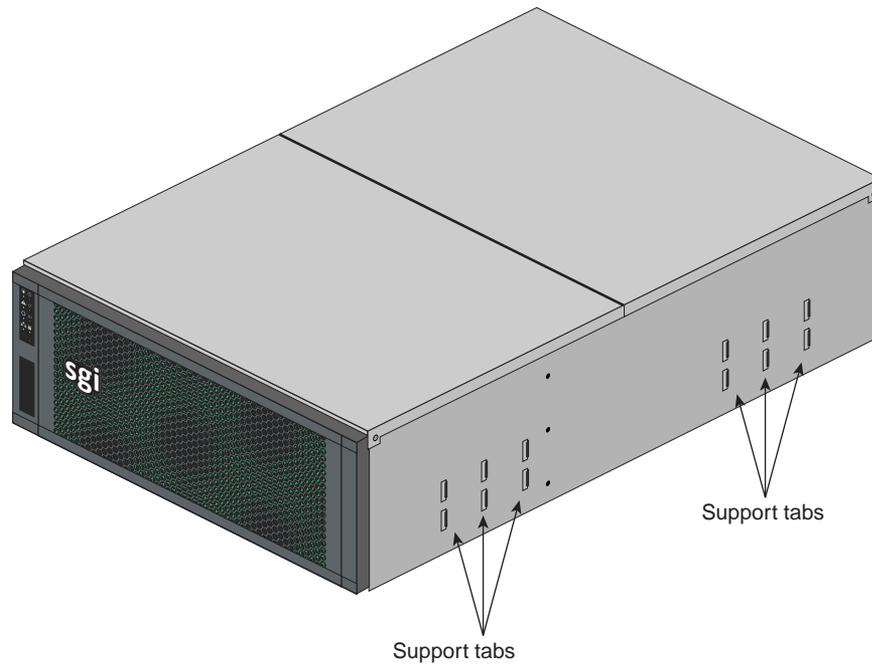

Figure 2-8 Support Tabs
2. Locate the six support tabs along the side of the chassis (see Figure 2-8 on page 20).